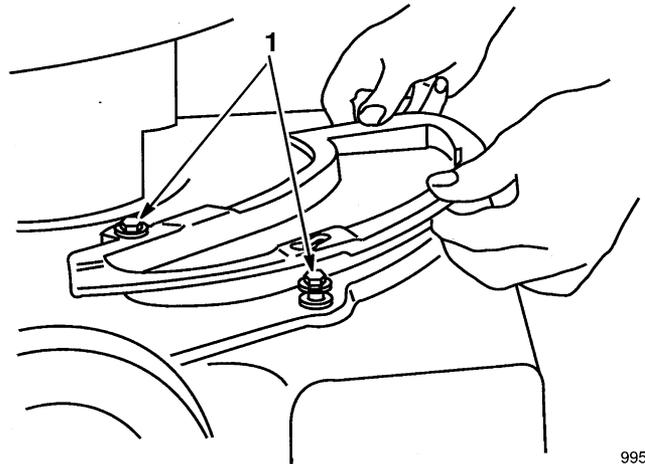

Figure 38
3. Two shoulder bolts on housing protrude through slotted holes in cover plate and do not have to be loosened or removed. Cover plate moves over shoulder bolt heads (Fig. 38).
- Two shoulder bolts on the mower housing protrude through slotted holes in the chute assembly and do not have to be loosened or removed. Chute assembly moves over the shoulder bolts (Fig. 38).
- Secure with wing screw (Fig. 38).